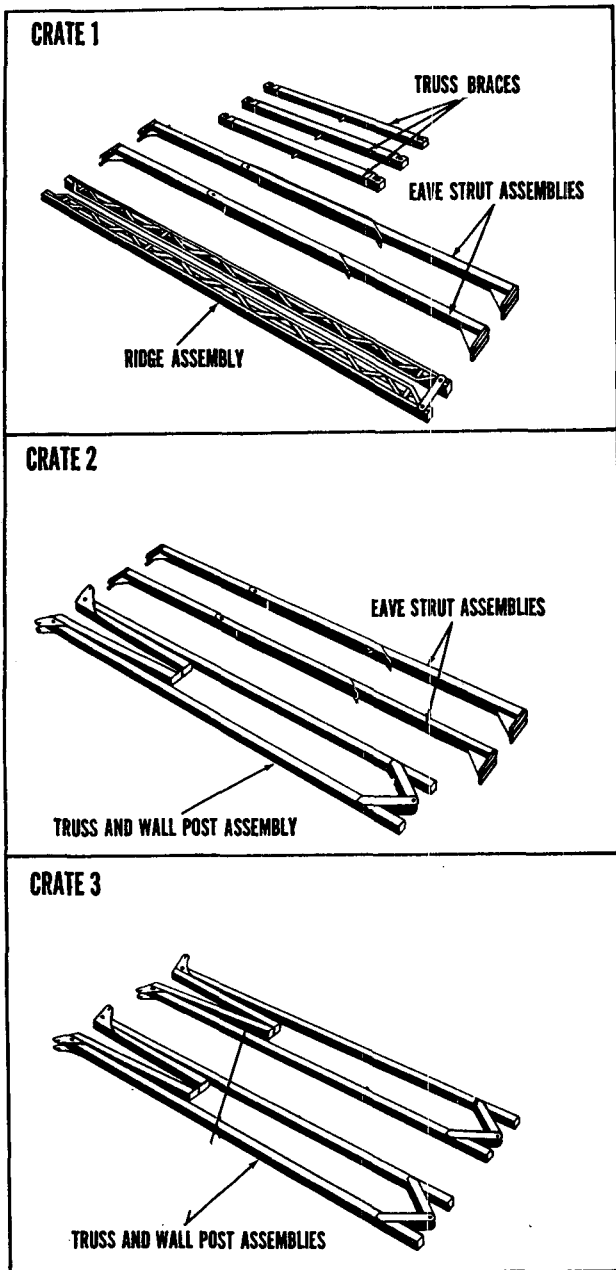

Figure 76. Packing frame of tent, maintenance shelter.
- (2) *Packing frame* (fig. 76). Pack sections of frame in three crates as follows: